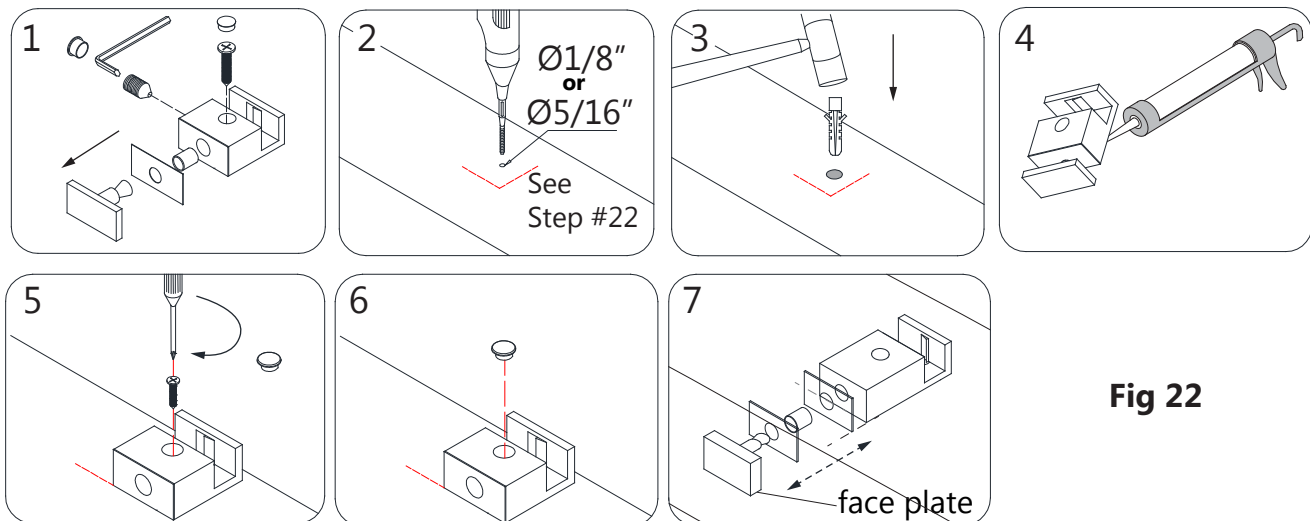

Fig 22
- drill a **Ø5/16" (8mm)** hole, install **Wall Anchor Ø5/16" (#16)** and use the **ST4.2 x 40mm Countersunk screw (#17)**. (Fig 22)